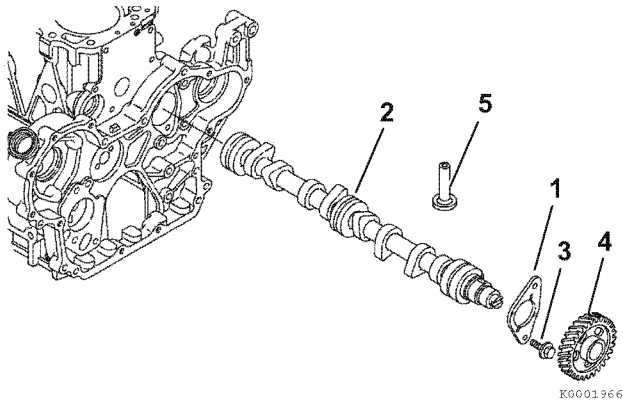

Figure 6-97
- Remove the two bolts (3, **Figure 6-97**) retaining the camshaft thrust plate (1, **Figure 6-97**).
- Rotate the engine in the engine stand so that gravity causes the tappets (5, **Figure 6-97**) to drop away from the camshaft lobes.
- Slowly pull the camshaft (2, **Figure 6-97**) assembly out of the engine being careful not to damage the front camshaft bushing.
- Remove the camshaft drive gear (4, **Figure 6-97**) only if the gear or camshaft require replacement. Use a knife-edge puller and a press to remove the gear. The gear is a shrink-fit and will need to be heated to 356 - 392 °F (180 - 200 °C) to remove.